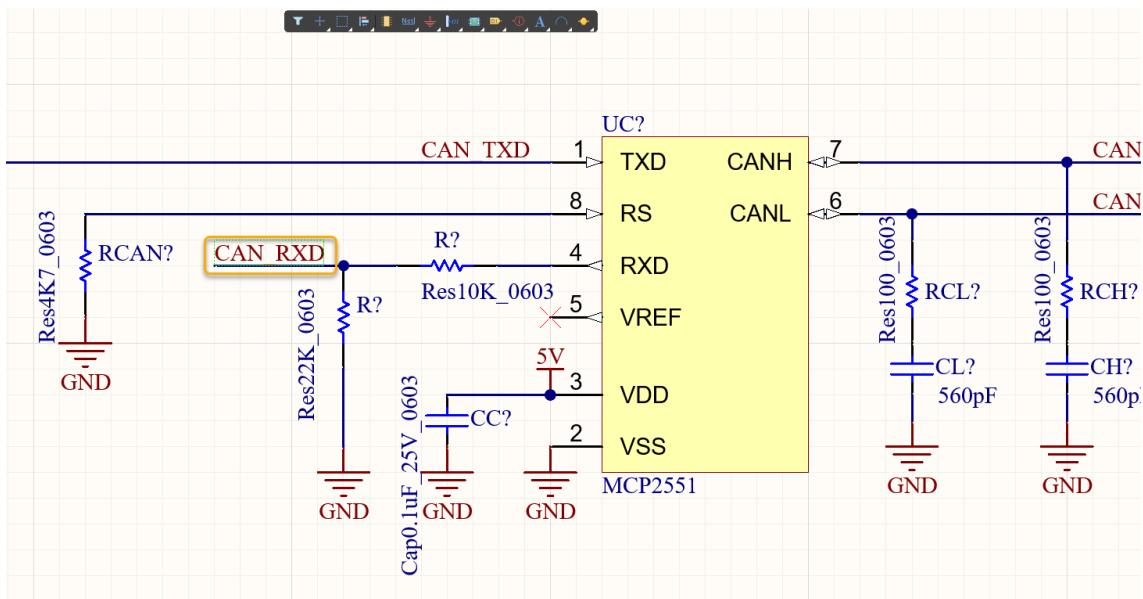

Figure 28. `CAN_RXD` Net Label placement
41. Go to **Place » Wire** and draw a short wire segment from R2 to the left, as shown in Figure 28 below.
43. Hit **Enter** to place the *Net Label* between the two resistors attached to UC2-4 (Pin 4 of UC2) as shown in Figure 28 below.